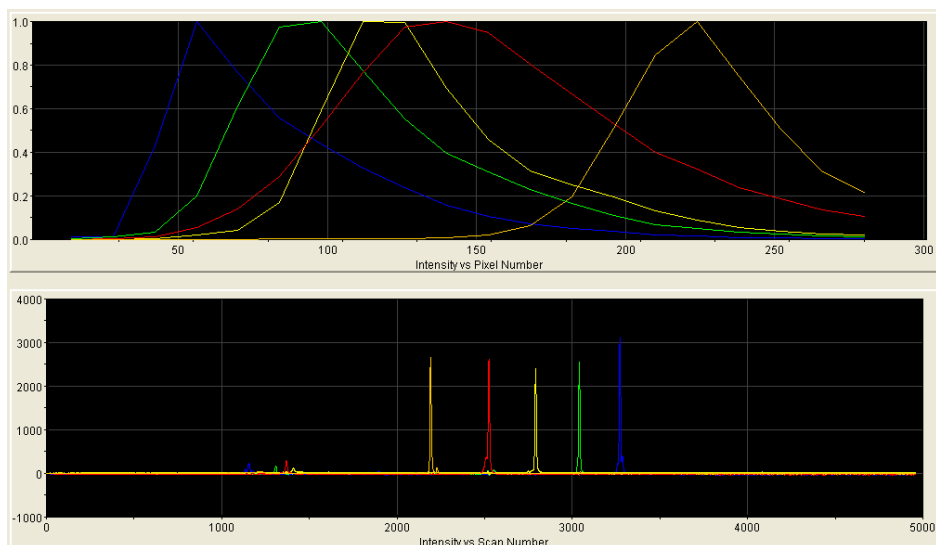

Figure 1. Electropherogram of spectral calibration with Matrix Standard BT5 on an Applied Biosystems 3130 Genetic Analyzer.
2. Check for a flat baseline in the matrix samples. As shown in Figure 1, there should be 5 peaks with peak heights of about 1000–5000 RFU in each matrix sample.